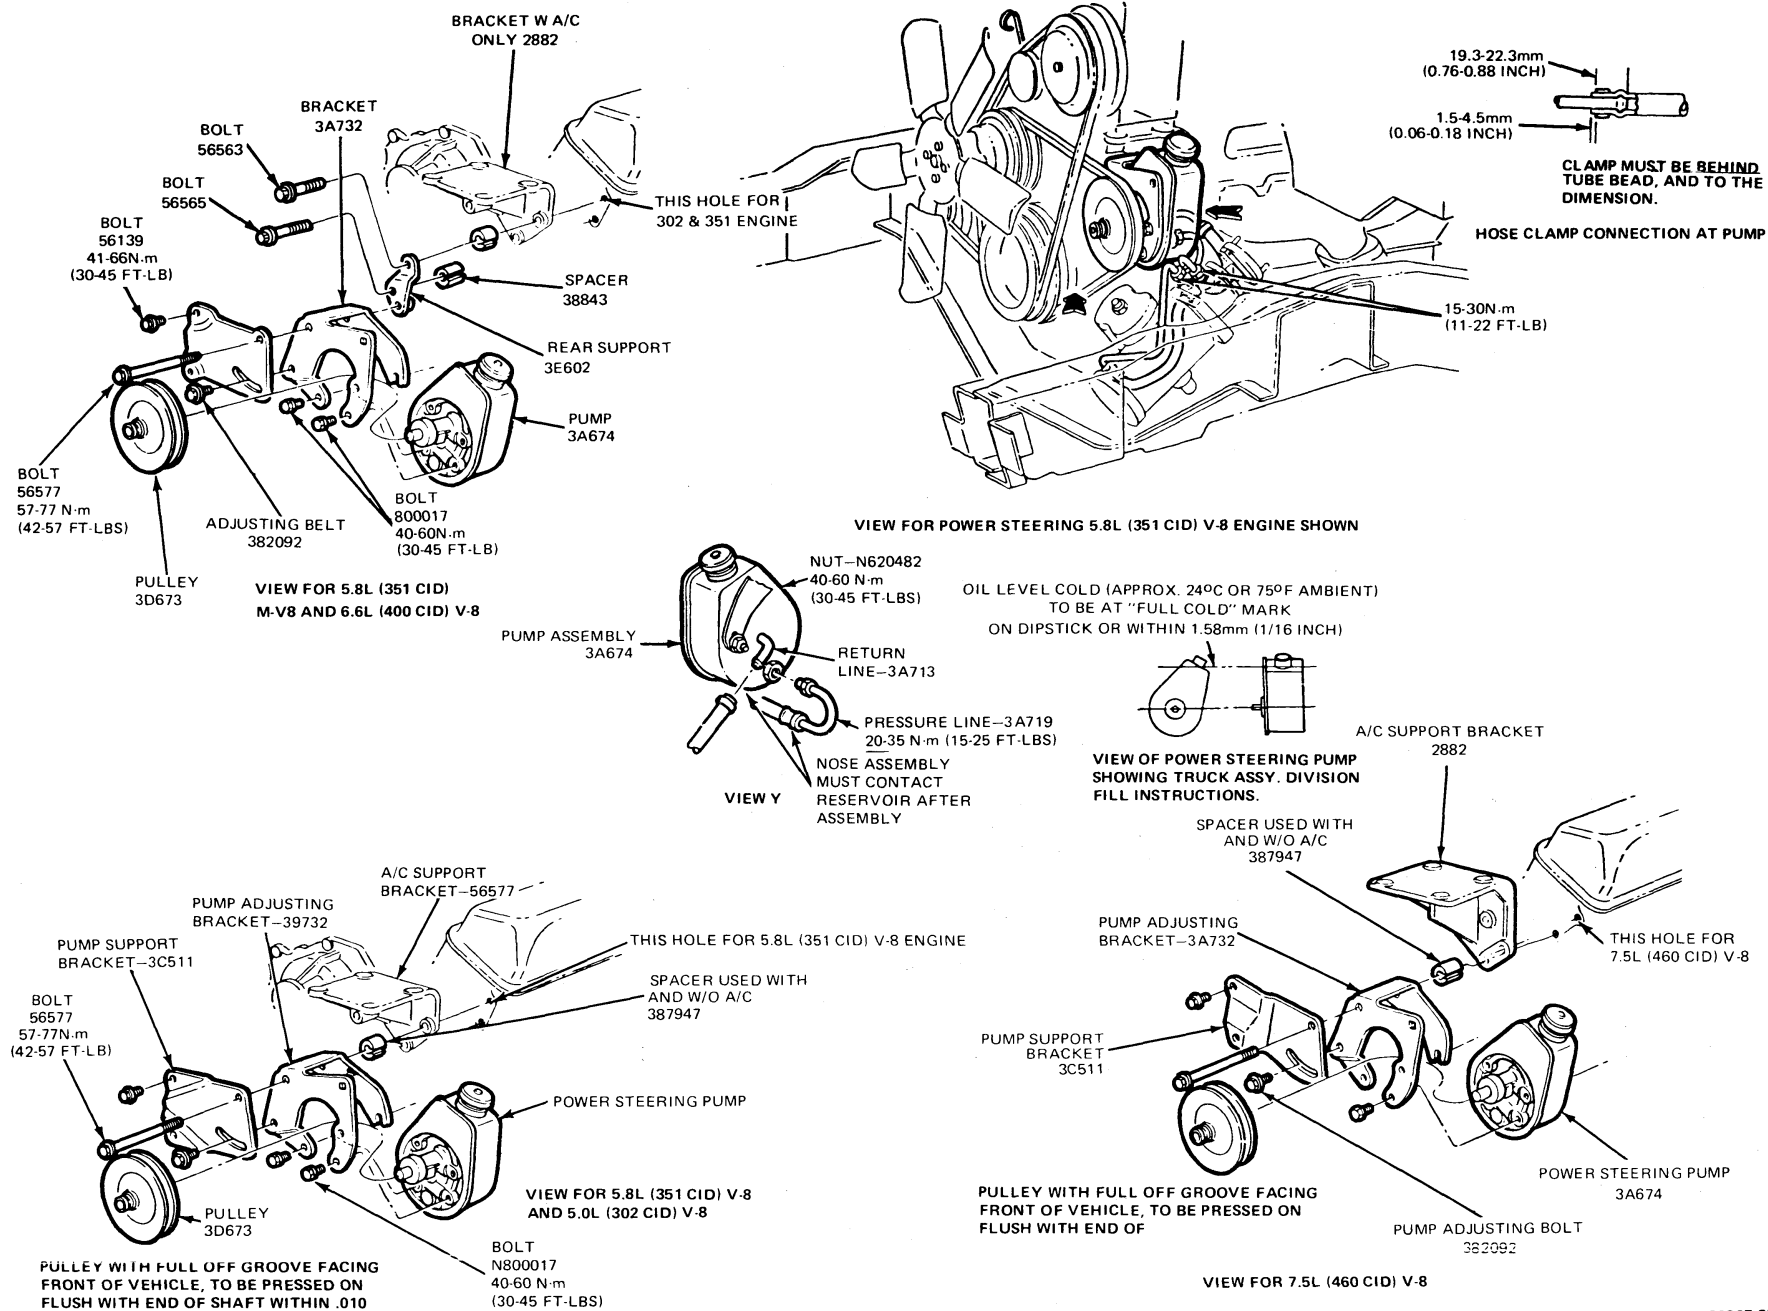

FIG. 2 Power Steering Pump Installation—8 Cylinder Engine
1. Disconnect the pressure and return lines from the pump and plug them to prevent loss of fluid or entrance of dirt into the system (Figs. 2 and 3).